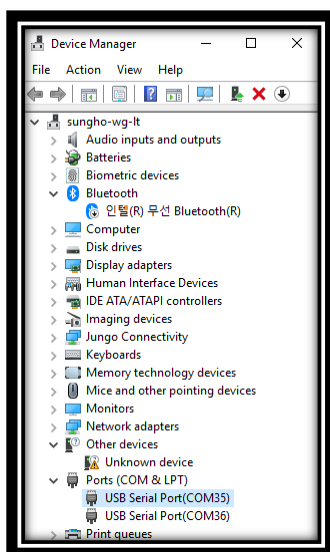
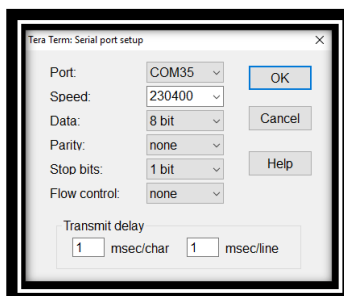

Figure 3: Check COM Ports on Device Manager
Figure 4: Serial Port Setup
The Windows driver creates two virtual COM ports. The first COM port (lower number, COM35 in this example) provides a UART interface for debugging or firmware download between the PC and the DA16600. See Figure 3.
2. Verify that the host identifies two serial ports as shown in Figure 3 – the second is connected to UART (see Section 4.1).
5. Select **Setup > Serial Port** and configure your UART port using the parameters as shown in Figure 4.
Figure 3 shows which port number to select in Device Manager in Windows. Make sure that the UART is configured as shown in Figure 4.